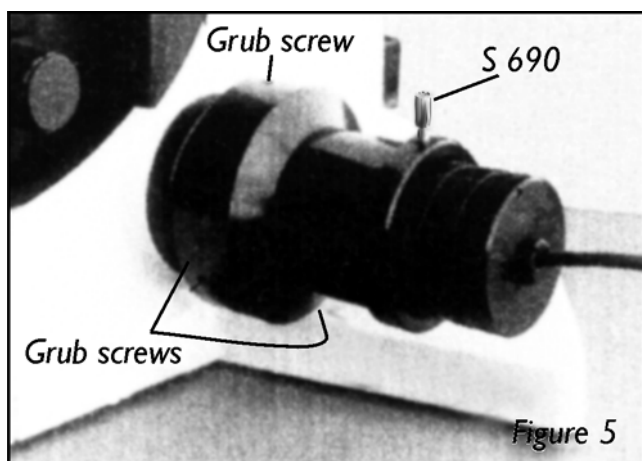

Figure 5
6. Fit H569 motor sleeve on the adapter ring. Tighten up 3 grub screws in sequence using the 2mm Hexagonal wrench key (figure 5). It may be
7. Slide the H249 Microstep Focus motor assembly into the motor sleeve and tighten the S690 thumb screw whilst gently pushing the focus motor assembly towards the microscope such that there is a good contact between the rubber surfaces of the drive of the motor and the drive coupling (figure 5). The fitting is now complete. The motor is now able to drive the fine focus mechanism of the microscope.